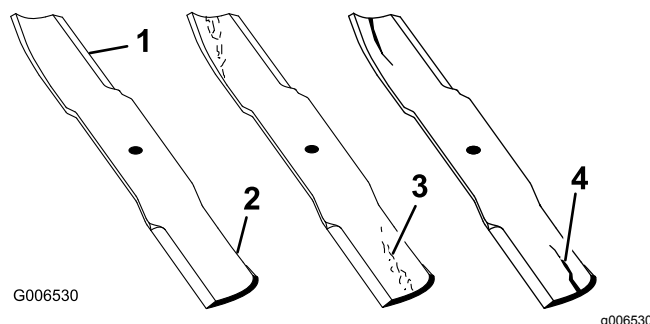

Figure 55
1. Inspect the cutting edges (Figure 55).
4. If you notice any cracks, wear, or a slot forming in this area, immediately install a new blade (Figure 55).